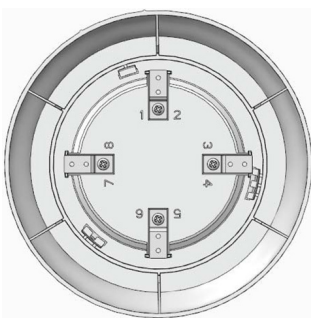

Fig.2 Bottom structure of the Base
2. The bottom structure of the Sounder flasher base as shown in Figure 2. Install the Sounder flasher base on the NFA-T01NB type base with the installation terminals of the two devices are one-to-one. The device number or other device parameters can be verified with a programming tool if desired.